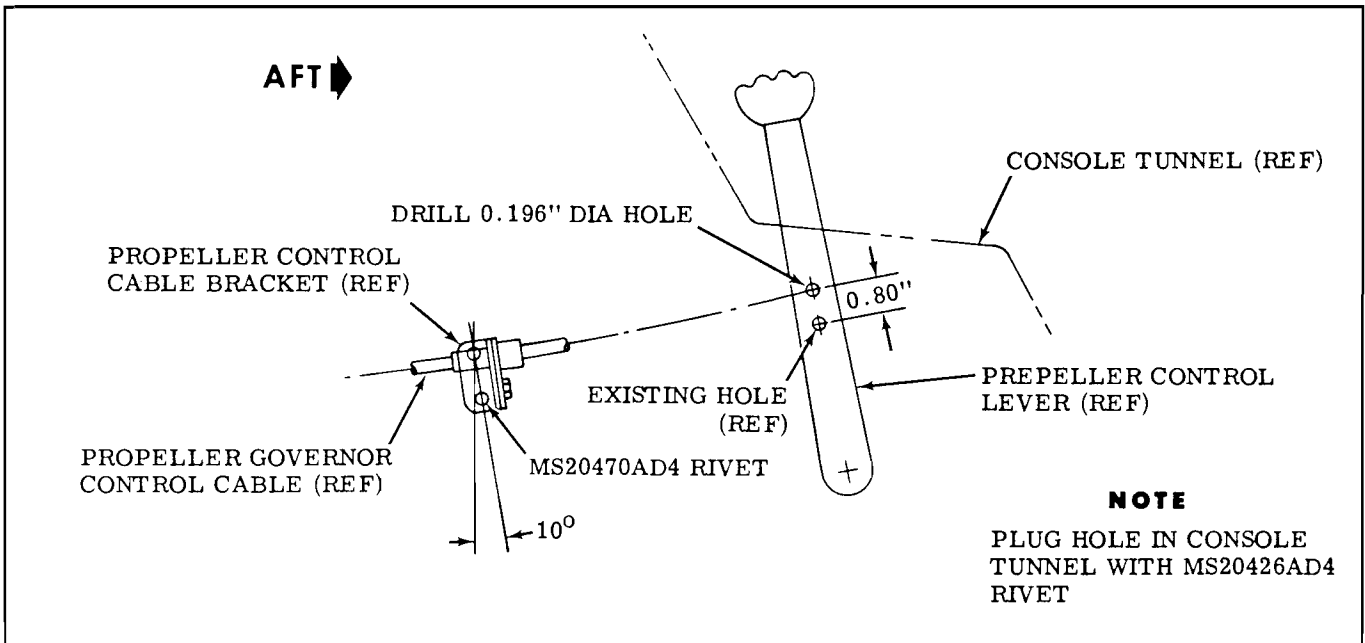

Figure 2.
19. Drill out lower rivet that attaches propeller governor control cable bracket to console tunnel, rotate bracket and plug hole in console tunnel with MS20426AD4 rivet (see Figure 2.).
20. Rotate lower end of propeller governor control cable bracket 10 degrees aft and drill and install a MS20470AD4 rivet (see Figure 2.).
21. Locate and drill a 0.196-inch diameter hole in existing propeller control lever (see Figure 2.).
22. Connect existing propeller governor control cable to new hole drilled in propeller control lever using existing hardware (see Figure 2.).